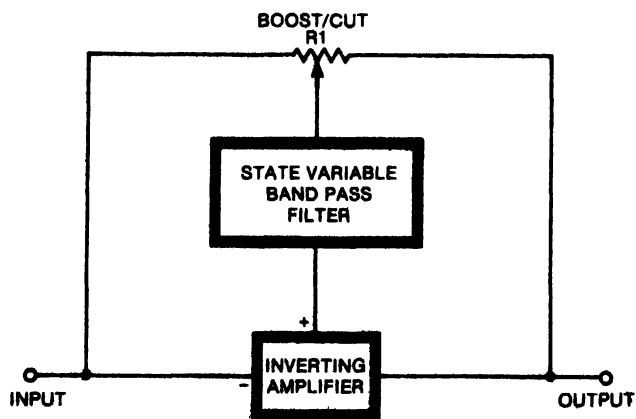

Fig. 3: Block diagram of parametric equaliser.
**Parametric equaliser.** A simplified block diagram to describe the principle of parametric equaliser is shown in Fig. 3. It shows a unity gain inverting amplifier inter-connected with state variable band-pass filter. A potentiometer is connected between the input and the output of inverting amplifier to give adjustable boost and cut. The centre frequency and filter bandwidth can be selected or adjusted by means of two potentiometers incorporated in the circuit of the band